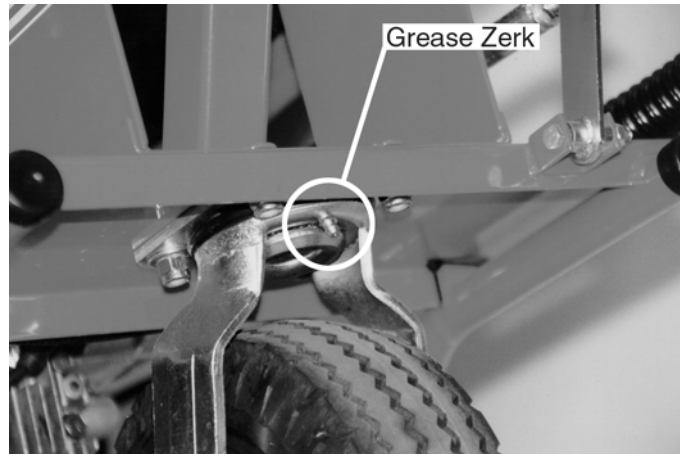

Figure 22
1. There is a grease zerk above the caster wheel (*Figure 22*). Grease it occasionally to keep the caster swiveling freely.